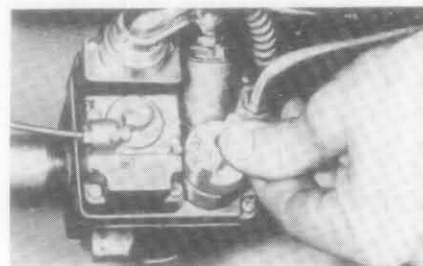

Figure 2
3. Rotate gas valve knob to PILOT position. See Figures 2 and 3